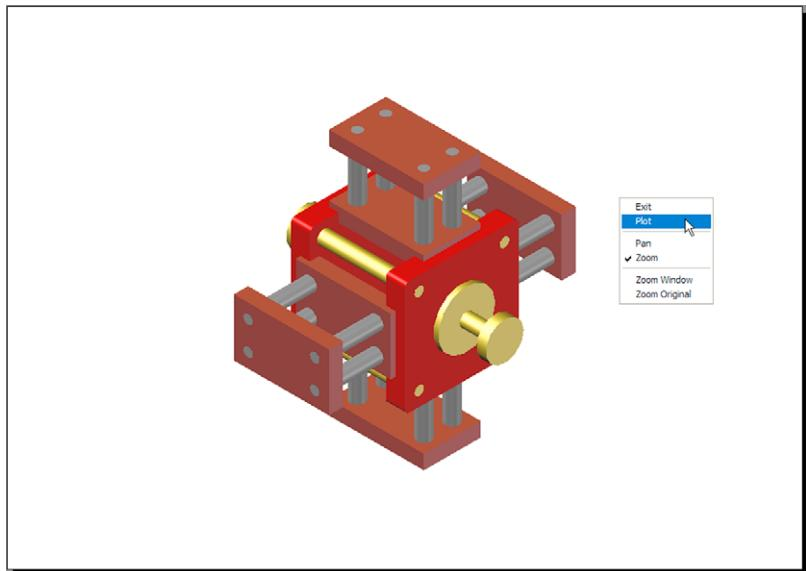

Fig. 15.36 First example – Print Preview – printing a single copy
### First example – printing (Fig. 15.36)
3. Click the **Preview** button of the dialog and if the preview is OK (Fig. 15.36), right-click and in the right-click menu which appears, click **Plot**. The drawing plots producing the necessary ‘hardcopy’.